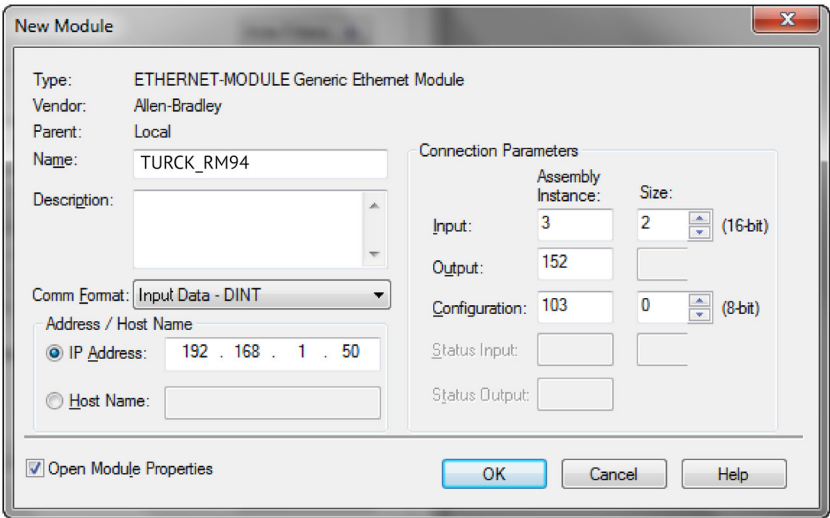

Figure 4.3: Sample RM-94 Configuration Screen
3) Set the following parameters in the Module Properties window. All parameters not listed here are optional. Figure 4.3 shows a completed screen.